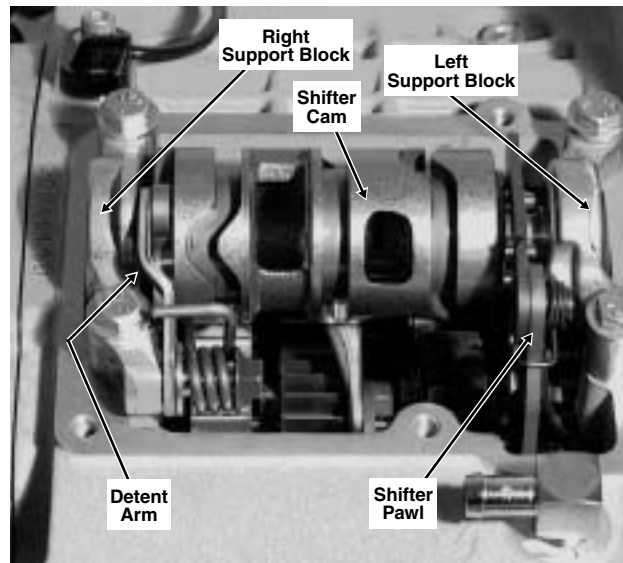
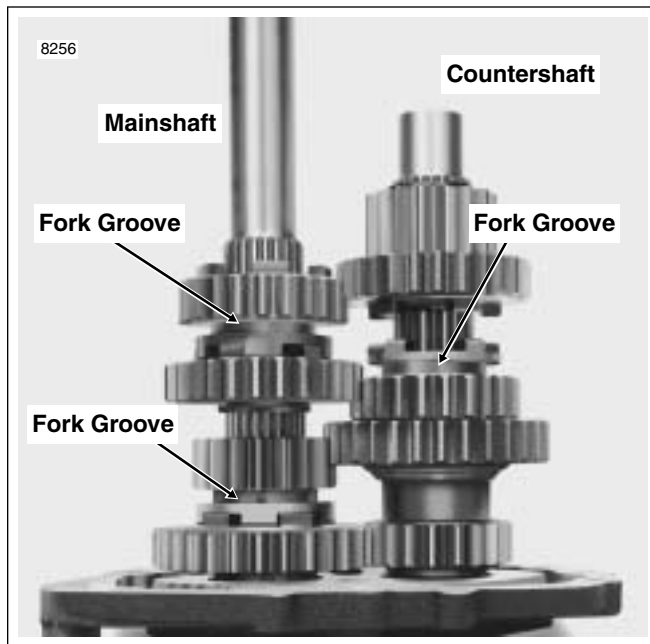
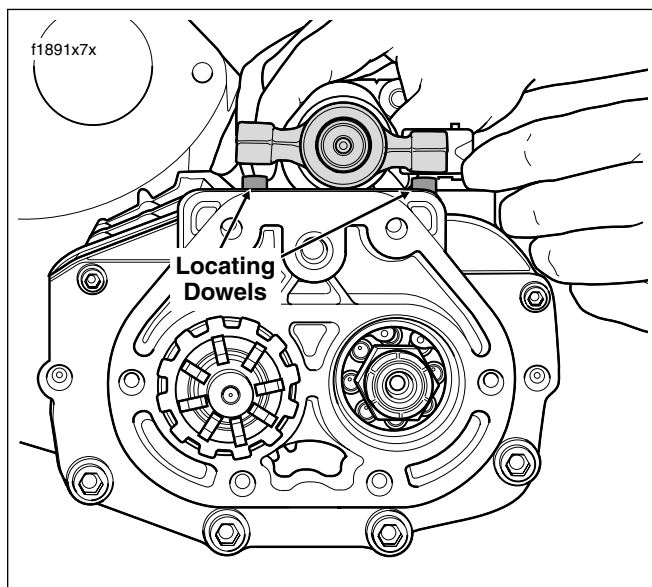

Figure 7-8. Install Shifter Forks/Shifter Cam
Figure 7-9. Shifter Fork Groove Locations
Figure 7-12. Place Support Blocks on Locating Dowels
1. See upper frame of Figure 7-8. Find the shifter fork with the centered pin. Holding the fork so that the pin is positioned at the rear of the transmission case, install the fork in the countershaft gear fork groove. See Figure 7-9.
7. Raise the shifter cam pawl and place the shifter cam assembly over the locating dowels. See Figure 7-12. While aligning the holes in the support blocks with the dowels on the deck of the transmission case, slide the shifter forks as necessary so that the fork pins engage the channels in the shifter cam. See lower frame of Figure 7-8.